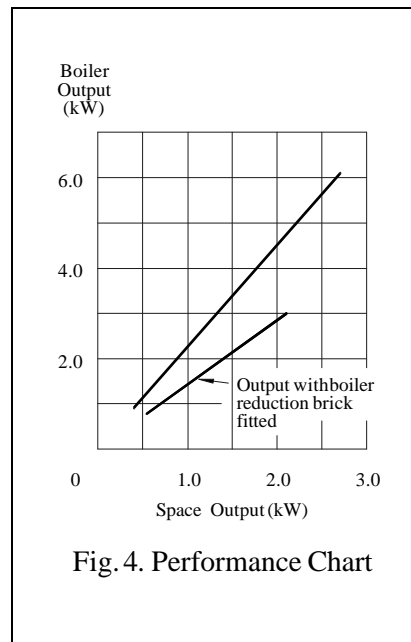

Fig. 4. Performance Chart
- b) the throat plate is fitted correctly (see Fig. 4.) and that it is not distorted.
output to water as shown in Fig. 4. This means that if the water heating load is less than the rated output then the room heating will be reduced by the same proportion. This must be borne in mind when calculating the heating requirements.
be reduced. Fig. 4. shows the ratio of space heating to water heating which can be expected.